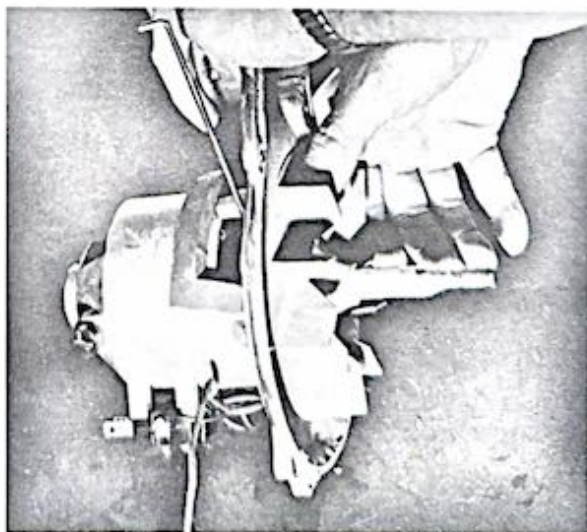
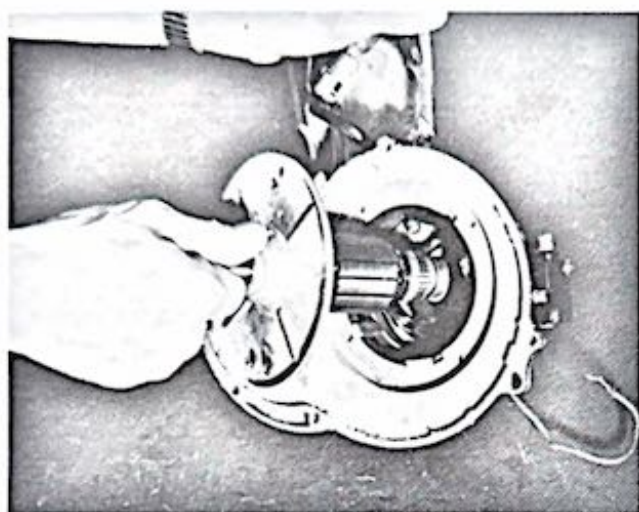
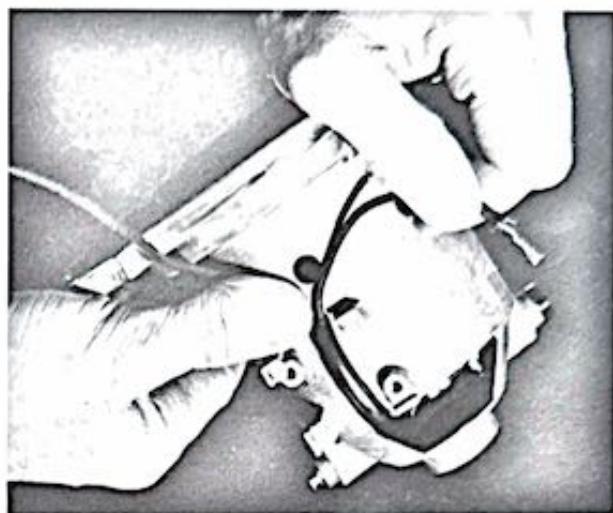

Figure 1-48. Removing fan and pulley from the armature.
Figure 1-49. Removing armature and bearings from the motor housing.
Figure 1-55. Positioning field leads and insulating tube
(3) If worn or damaged, pull the seal O-ring (60) from the groove of the fan housing.
(4) If the nozzle lock (68) is damaged, center punch and drill out end of the screw (66); remove the screw, spring (67), and nozzle lock.
g. Insert a fan locking pin (T104) or an ice pick through the ventilating hole of the motor housing and through the hole in the armature shaft to hold the armature from turning as shown in figure 1-48; turn the fan and pulley (55, fig. 1-3) in a clockwise direction to remove it from the left hand threads of the armature shaft.
i. Remove the four screws (54) that secure the front bearing plate assembly (53) to the motor housing.
j. Remove the assembled front bearing plate, armature (51), and bearings by pulling on the armature shaft as shown in figure 1-49. This is a tight fit and considerable effort may be required. Remove the grease retainer washer (49, fig. 1-3), which sometimes sticks to the rear bearing, and the bearing finger spring (48) from the motor housing.
(6) Position the field leads and insulating tube as shown in figure 1-55. Connect the shorter field lead and one of the headlight leads to the terminal at the side of the foot switch (see figure 1-49). Position the foot switch over the insulating tube on the motor housing casting so that the prongs extend to